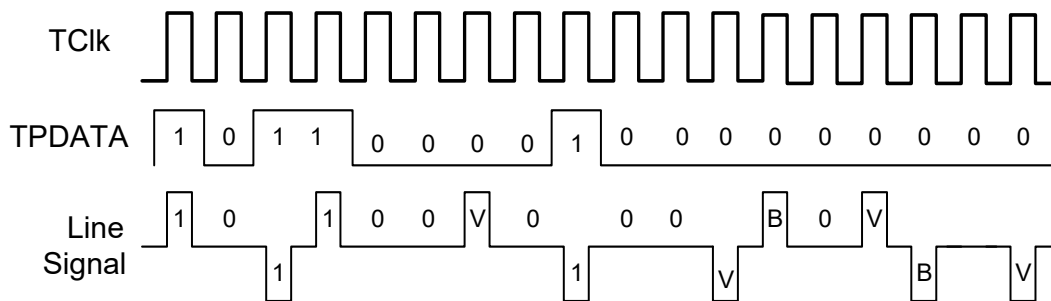

Figure 17: B3ZS Encoding Format
An example of B3ZS encoding is shown in **Figure 17**. If the encoder detects an occurrence of three consecutive zeros in the data stream, it is replaced with either B0V or 00V, where 'B' refers to Bipolar pulse that is compliant with the alternating polarity requirement of the AMI (Alternate Mark Inversion) line code and 'V' refers to a Bipolar Violation (for example, a bipolar pulse that violates the AMI line code). The substitution of B0V or 00V is made so that an odd number of bipolar pulses exist between any two consecutive violation (V) pulses. This avoids the introduction of a DC component into the line signal.